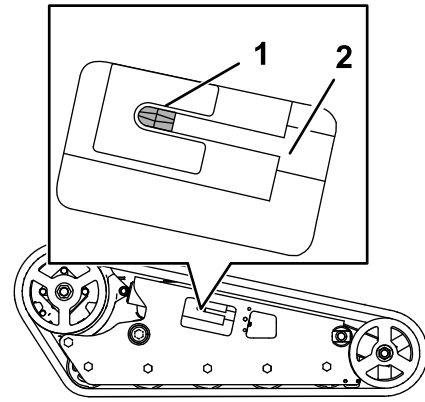

**Figure 66**
7. Remove the nut securing the outer front wheel and remove the wheel (Figure 66).
8. Remove the track (Figure 66).
9. Pull the 2 large washers out of the outer wheels, 1 on each side of each wheel (Figure 66).
12. Install the new track. (Figure 66).
13. Install the outer front wheel and secure it with the nut removed previously (Figure 66).